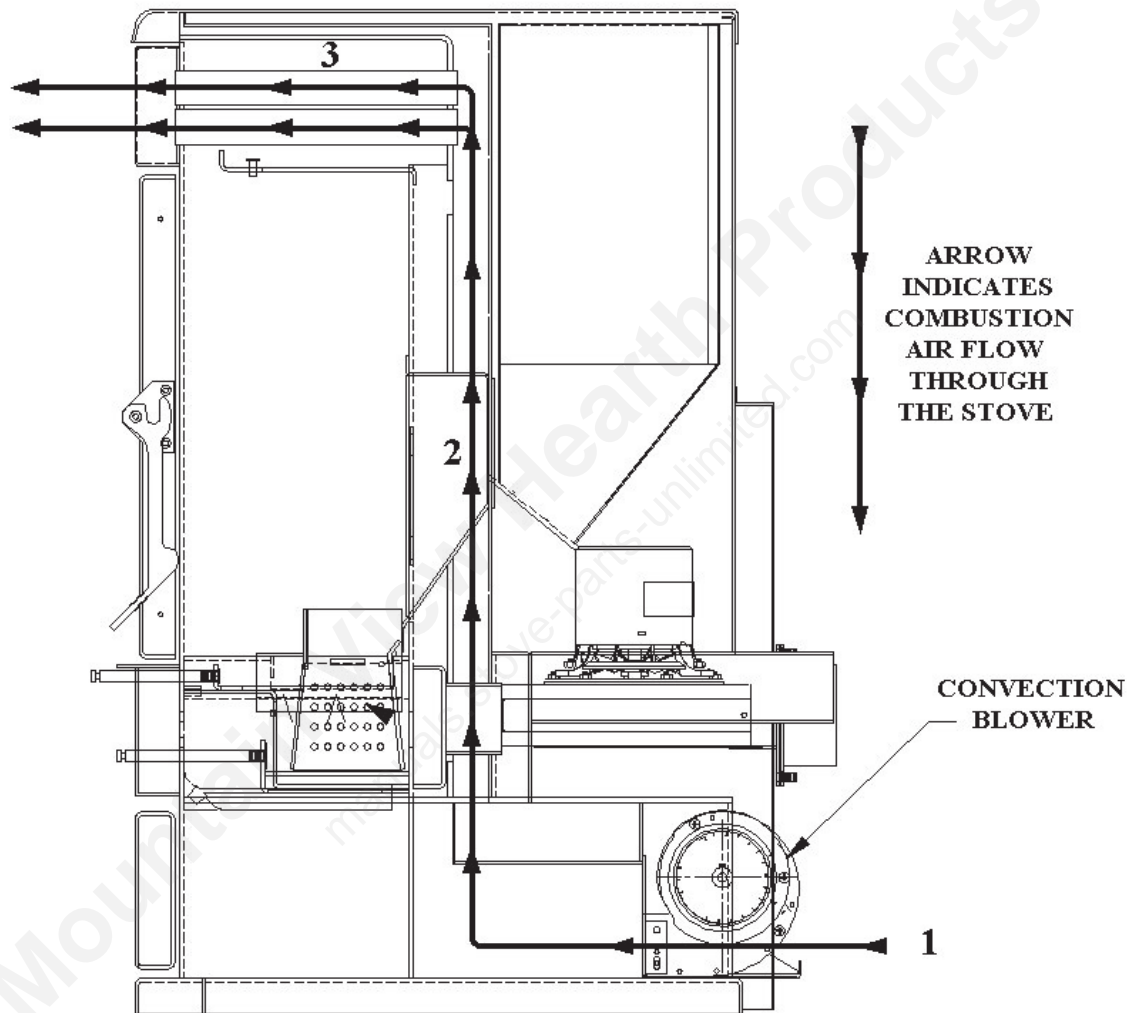

Figure 21
*Location:* Above the door, extending through the Hot Air opening. See Figure 21 and 22 on Pages 50 and 51.
*Location:* The warm air plenum carries room air from the convection fan, past the hot air plenum where it picks up heat. The room air is then delivered through the heat tubes into the room. See Figure 21 on Page 50.